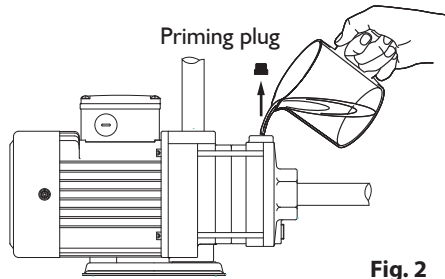

Fig. 2
4.3.2.2 Remove the priming plug, fig. 2.